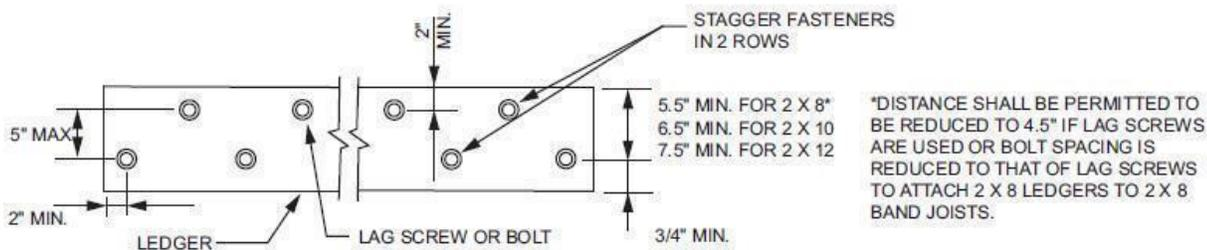

FIGURE R507.2.1(1)
- d. The minimum distance from bottom row of lag screws or bolts to the top edge of the ledger shall be in accordance with Figure R507.2.1(1).